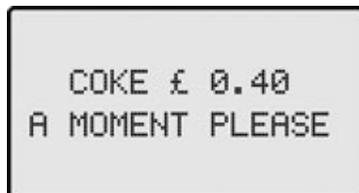
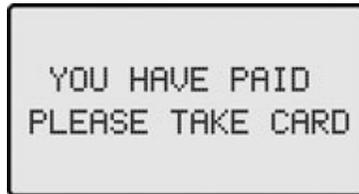
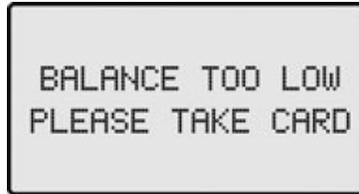

Figure 6-2 Choice, price, a moment please
Figure 6-3 You have paid, please take card
Figure 6-4 Card balance is too low
2. Customer selects item to purchase by pressing the appropriate button on the vending machine. The display will show as in Figure 6-2. The amount due will be deducted from the card. The vending machine will conduct the product chosen to the compartment where the customer can take it. After a short while a beep is heard. The display then shows as in Figure 6-3 (sometimes only after the product has been taken out). The card reader will start to beep if the card is not taken. If the balance on the card turns out to be lower than the price of the product chosen, the display of the card reader will show as in Figure 6-4.